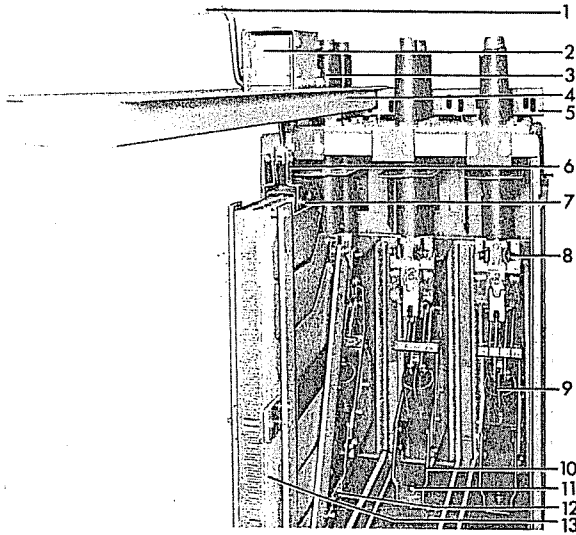

Figure 16 (8034810) Interrupter Partially Removed Showing Accessibility of Arcing Contacts
Refer to Figure 16. An arc chute lifter is normally furnished with the metal-clad switchgear for use in removing and replacing the interrupters of the AM-4.16-350 breakers. When the lifter is not available an overhead crane or portable hoist may be used. The arc chute lifter is assembled to the top plate of the breaker as shown in the
Tighten the supporting bolts (8) and (11), Figure 16. These bolts serve as both the electrical and mechanical connections between the bushings and the arc runners within the interrupter. Check that the movable arcing contact (9) passes between the probes on the upper arc runner (3) Figure 20 without touching.